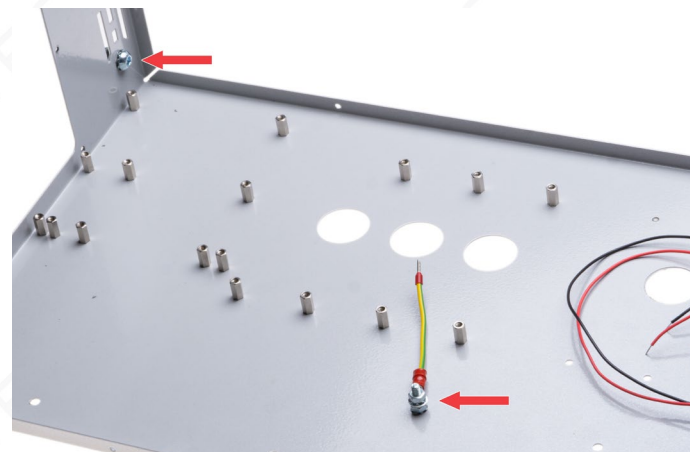

Fig. 6: Location of ground connections
- Remove the paint 2 mm inside and outside around the holes for the functional grounding screws (FG).
- Assemble the internal grounding screw connection from the screw 33, the washer 36, the toothed washers 38, the nuts 40 and the grounding cable 22 as shown in Figs. 6 and 7.